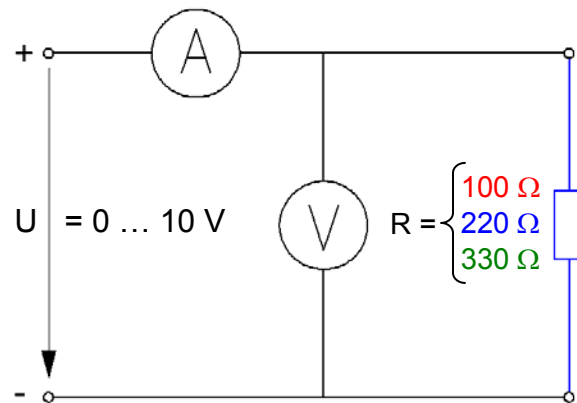

Fig. 7.2.1: Circuit with resistors
The practical exercises following will show the relationships between the basic variables voltage  $U$ , current  $I$ , resistance  $R$  and the electric power. A series of measurements will be recorded in the circuit shown in Fig. 7.2.1 and represented in a graph. The resistor components used in the circuit,  $100\ \Omega$ ,  $220\ \Omega$  and  $330\ \Omega$ , all have a maximum power dissipation of  $P_V = 2\ \text{W}$ .
- Assemble the circuit in Fig. 7.2.1 on the Electronic Circuits Board for recording the measurements.
- Insert a resistor of  $R = 22 \Omega$  in the circuit as in the circuit, Fig. 7.2.1. Set the voltage drop across this resistor to the maximum permissible  $6,63 \text{ V}$  as accurately as possible and check that the current flow is in fact,  $0,3 \text{ A}$ .